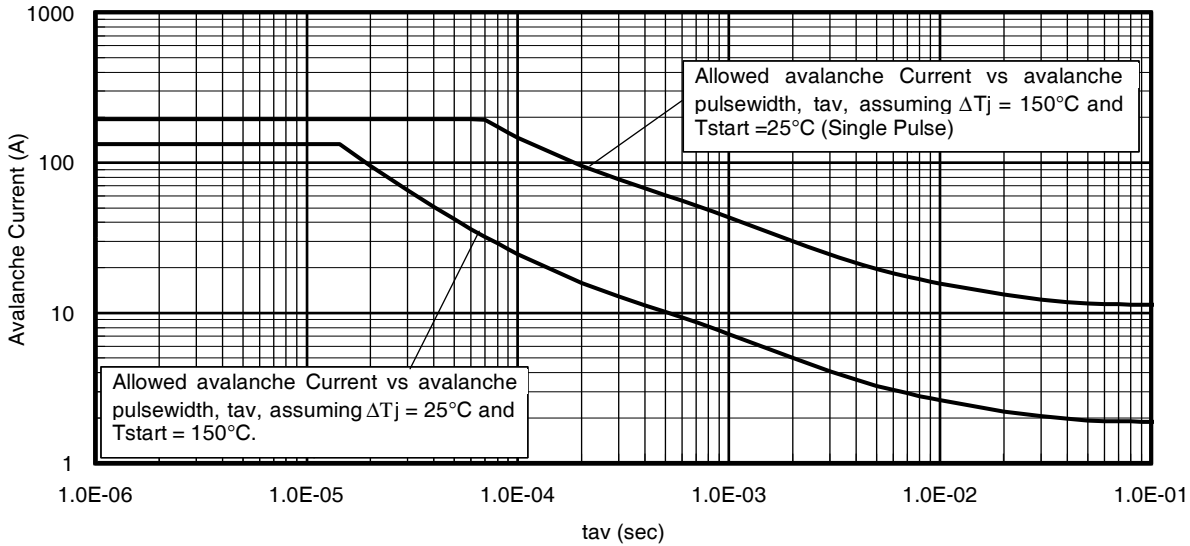

Fig 14. Avalanche Current vs. Pulse width
| I_{AR} | Avalanche Current ^② | See Fig. 14, 15, 22a, 22b | A |
Notes on Repetitive Avalanche Curves , Figures 14, 15:
7. ΔT = Allowable rise in junction temperature, not to exceed T_{jmax} (assumed as 25°C in Figure 14, 15).